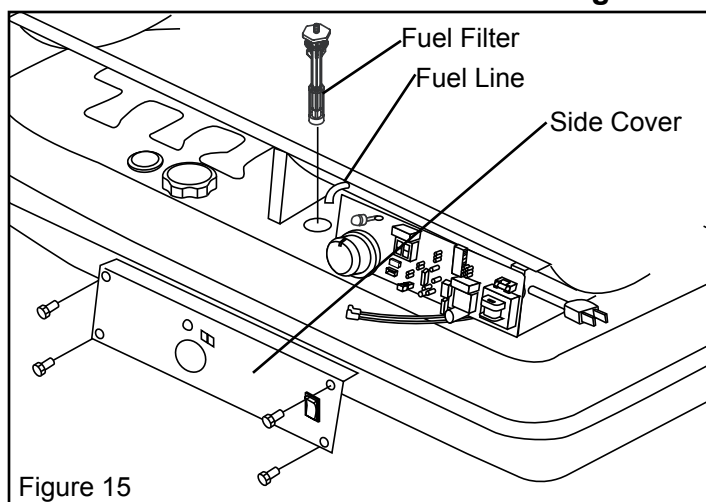

Figure 15
**NOTE:** To remove the filter from models 45 / 70T-KFA turn filter 90° clockwise. To remove the filter from models 125T / 175T / 215T-KFA turn filter 90° counter-clockwise. See Figure 15.